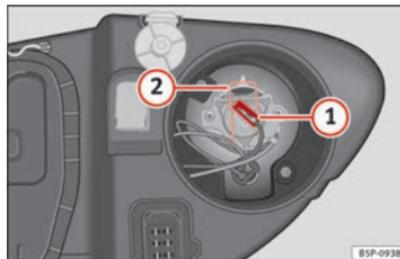

Fig. 187 Main beam headlight
- Remove connector ⇒ Fig. 187 ① from the bulb.
- Press the spring ⇒ Fig. 187 ② inwards and to the right.